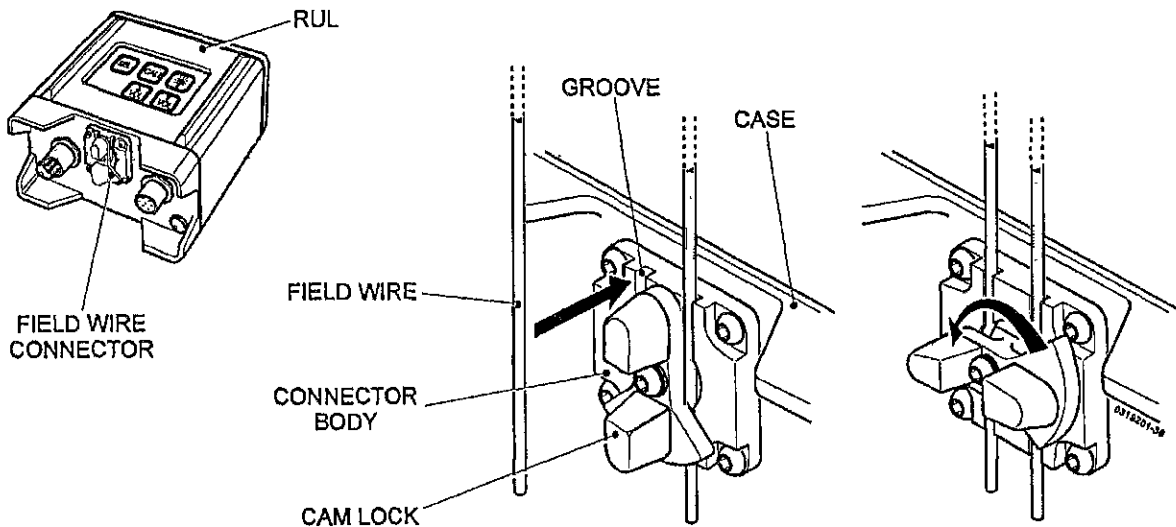

Fig 24 Field wire connection to RUL
88.2 Connect the D10 field wire inner end to the RUL field wire connector (Fig 24).